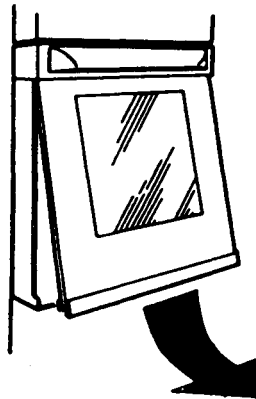

Fig. 15
3. Gently pull the glass towards you while pulling it slightly downwards so it clears the top trim (Fig. 15).